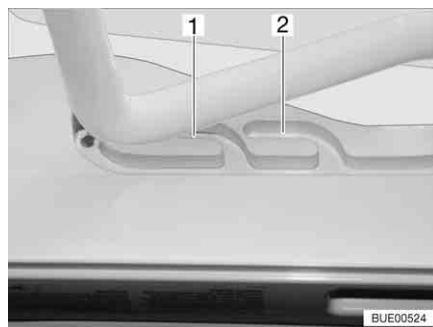
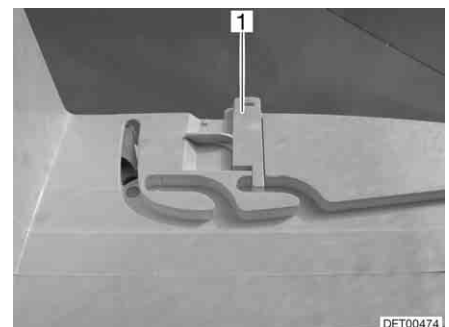

Fig. 80 Heki skylight in ventilation position
Fig. 81 Ventilation position locking mechanism
The Heki skylight can be put in two ventilation positions: Bad weather position (Fig. 80,1) and central position (Fig. 80,2). Depending on the model, the skylight can be locked in the central position with both left and right latches (Fig. 81,1) on the skylight frame.
- Push the bar slightly upwards and into the selected guide (Fig. 80,1 or 2) and lock if necessary.